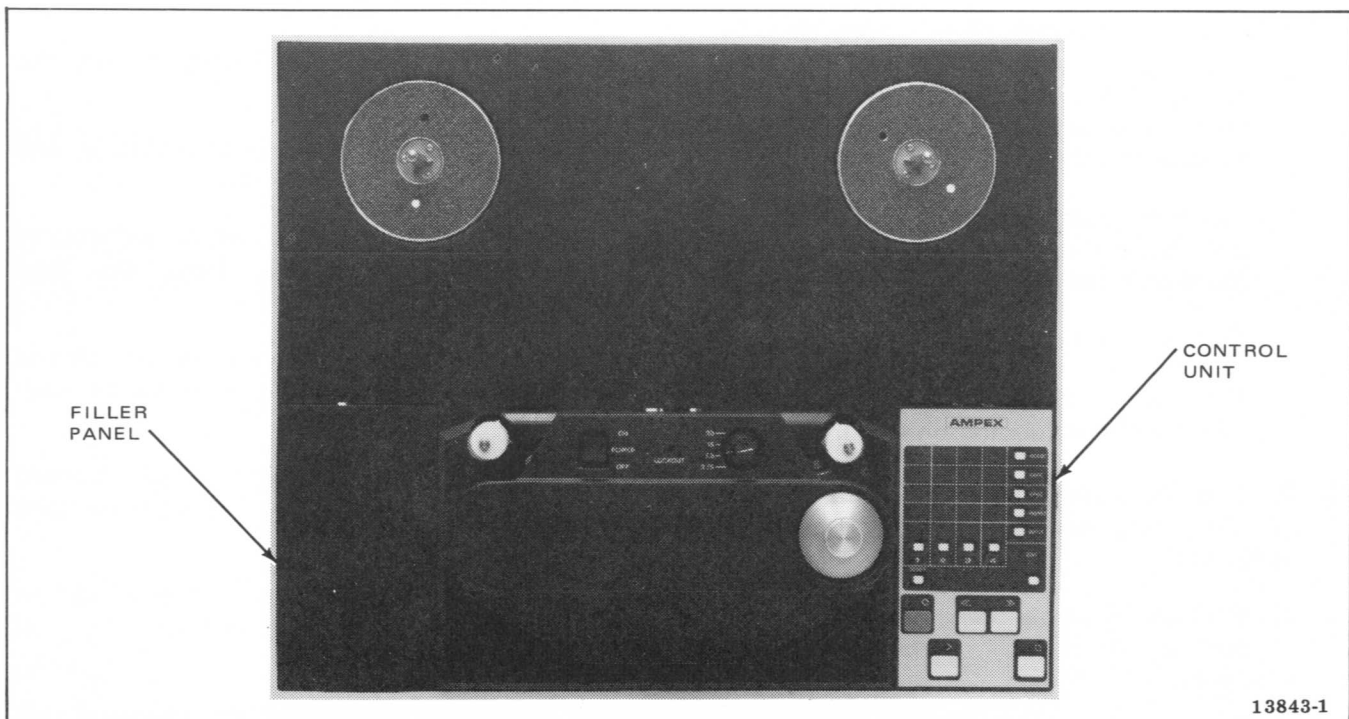
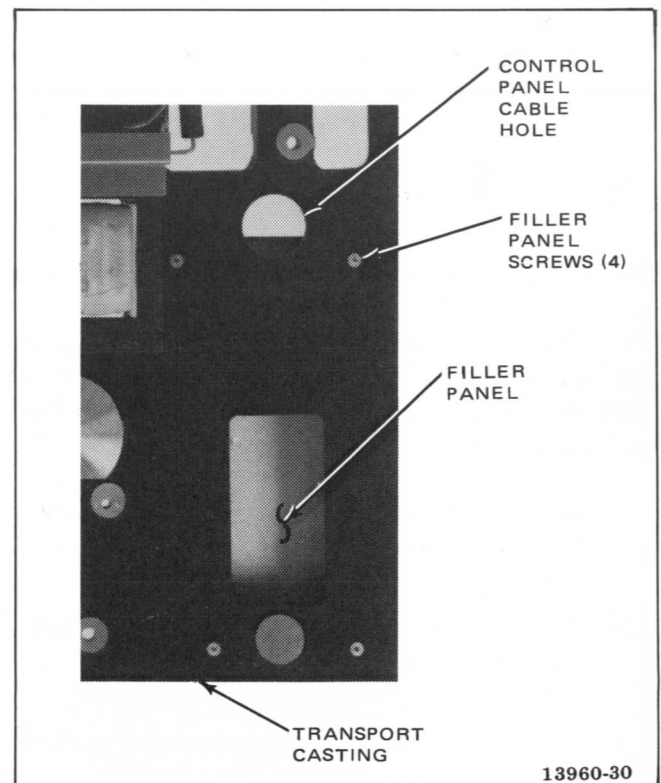

Figure 2-19. Tape Transport
Figure 2-20. Rear View of Filler Panel
For operator convenience, the control unit (Figure 2-19) may be relocated from the right-hand position on the top of the transport to the left-hand position. To relocate the control unit, it is also necessary to remove the electronics chassis from the transport to gain access to the screws that secure the filler panel shown in Figure 2-20. Proceed as follows:
6. Remove left-hand filler panel by removing four flat-head screws accessible from the bottom of the transport casting (Figure 2-20).
7. Feed control unit captive cable connector P11 through hole in the left side of the transport (Figure 2-20) and mount control unit using screws removed in step 3.